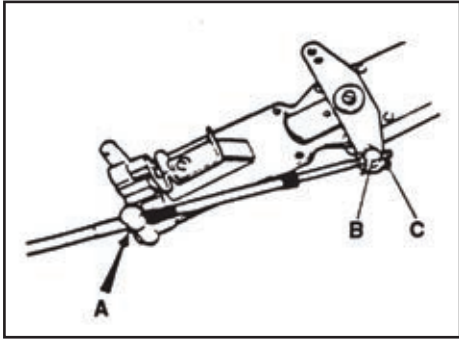

Figure 4.
STEP 1. Push the shift cable through the appropriate retainer, making sure the cable seats securely into the retainer (Figure 4, item A).
STEP 3. Connect the pivot to the shifting lever (Figure 4 item B) and secure with a cotter pin (Figure 4 item C).